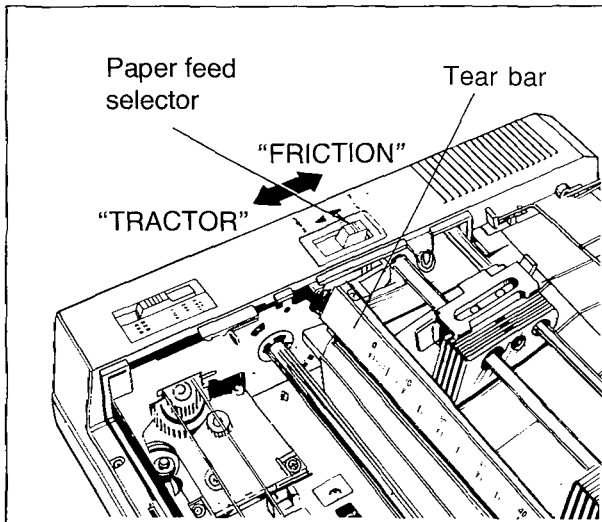
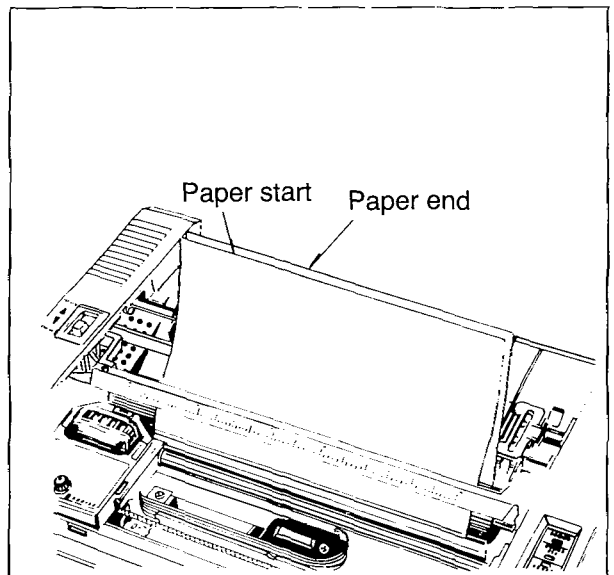

Figure 2.5A Paper Feed Selector
Figure 2.5C Aligning a Single Sheet
- Place the PAPER FEED selector in the FRICTION position. Refer to Figure 2.5A. Raise the tear bar that is located in front of the platen.
- To align the paper horizontally or vertically, set the PAPER FEED selector to the TRACTOR position. Refer to the Figure 2.5C. This releases the pinch rollers and allows the paper to be positioned as required. Set the selector back to FRICTION before printing. Refer to Figure 2.5A.